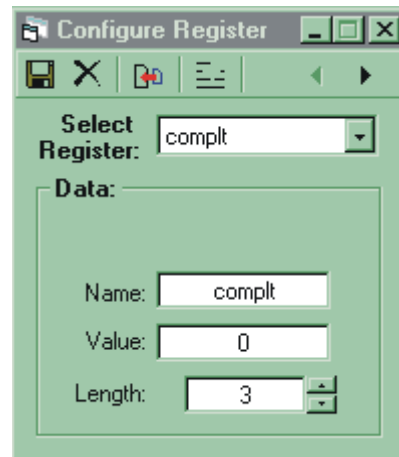

Figure 4.29: Screen 2 Quantity Complete Register Setup
- 2] In the Configure Register dialog (figure 4.29), type "complt" in the "Name" box.